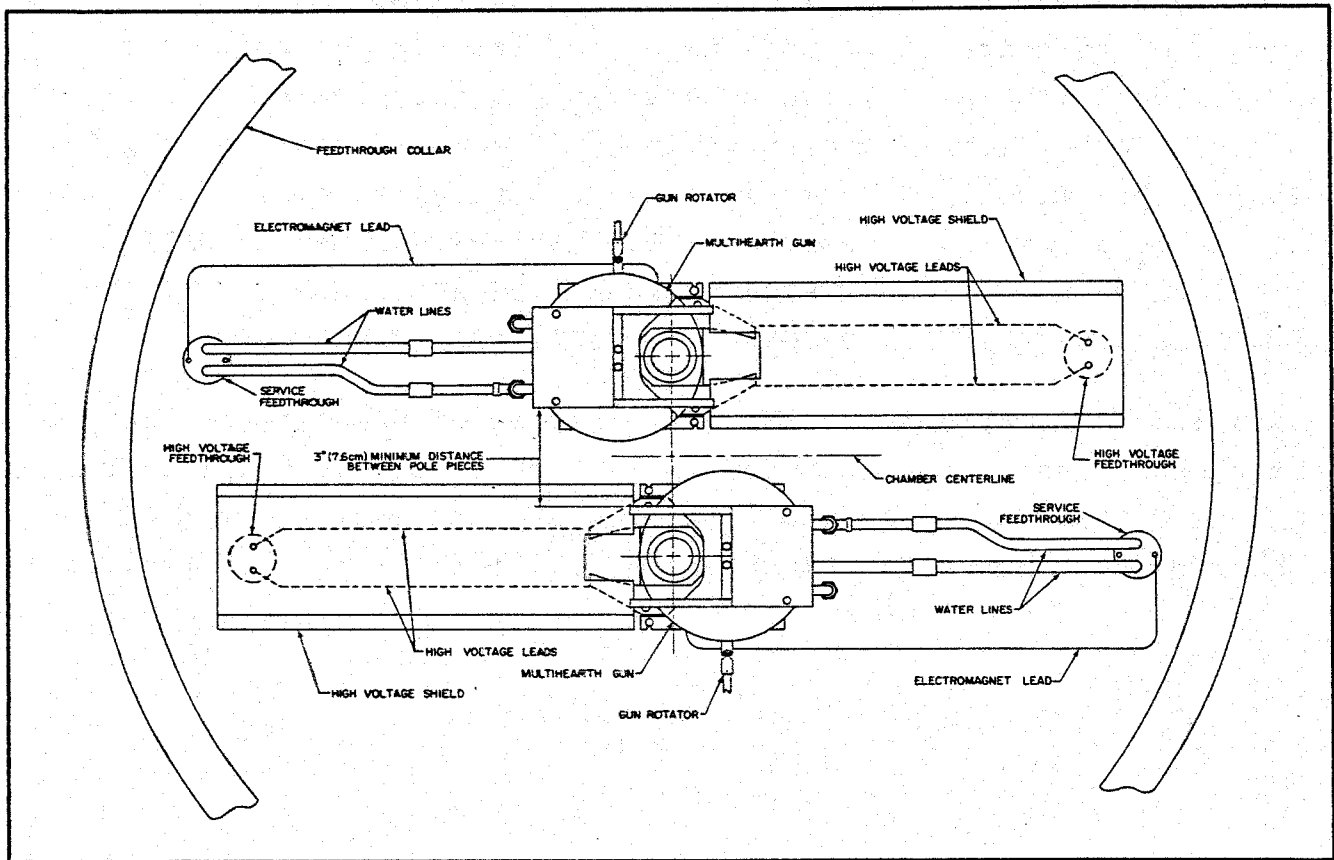

Figure 2-6. Typical Mounting of Two Electron Beam Guns in One Vacuum Chamber.
- (1) The guns must be mounted with at least 3 inches (7.6 cm) of separation, and they must be side-by-side with the hearths centered and with water lines facing in opposite directions as shown in Figure 2-6.